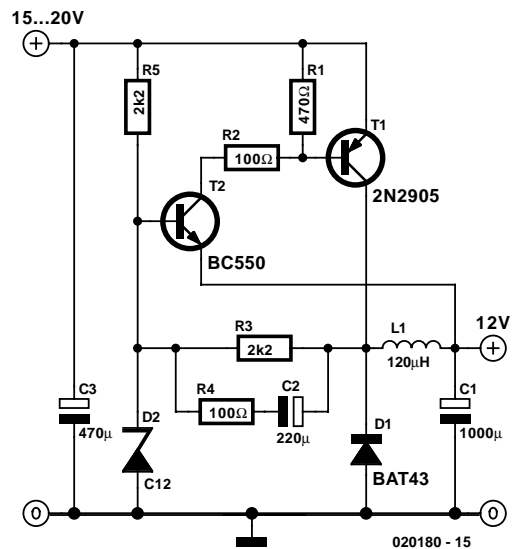

Figure 7. Regulated down-converter using two transistors.
Can we make things even simpler, using only two transistors? Indeed we can: **Figure 7** shows a regulated step-down converter producing 12 V from 20 V. It is described in the references [2]; again, European equivalents have been substituted for some components.
-12 V from an input voltage of 5 V. The basic circuit is the same as that shown in **Figure 3** and **Figure 7**.